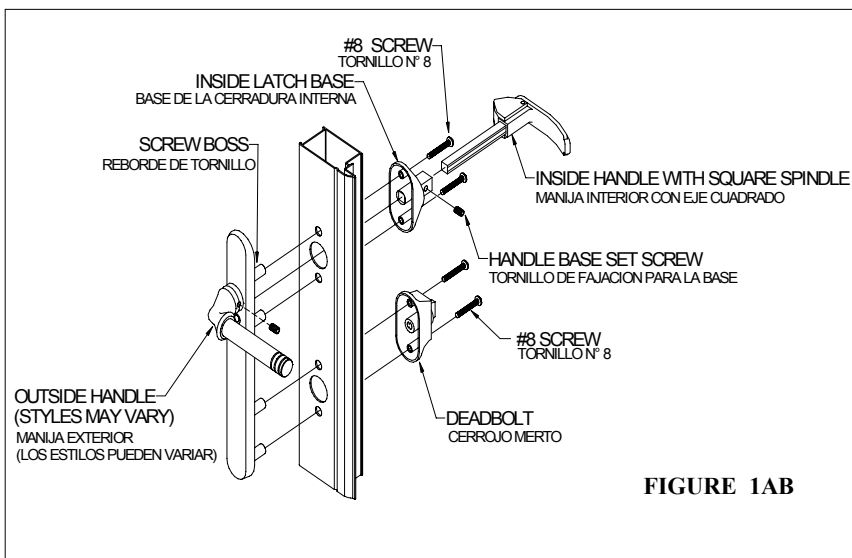

FIGURE 1AB
A: Slide the inside handle into its base. Tighten the handle base set screw. **FIGURE 1AB**
B: Insert the outside handle set into the outside door frame holes. Place the square spindle of the inside handle through the door and into the square hole of the outside handle. Thread two (2) #8 machine screws through the inside handle into the outside handle screw bosses. Tighten the outside handle set screw. **FIGURE 1AB**